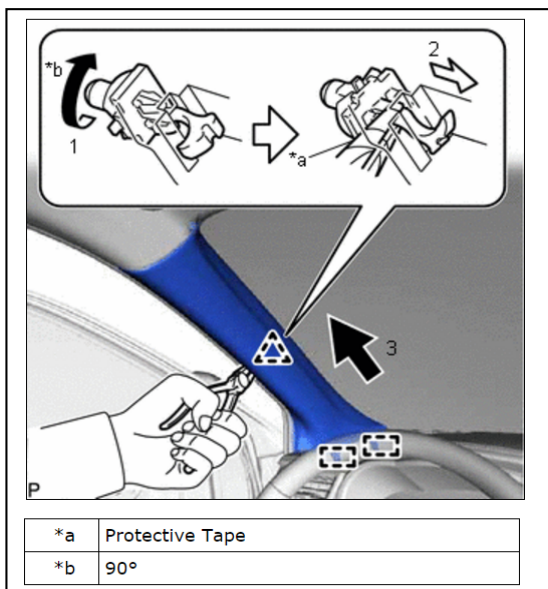

Figure 24
- d. Using needle nose pliers with the tips wrapped with protective tape, rotate the front pillar garnish clip (B) 90° in the direction indicated by the arrow(1) in Figure 24.
- e. Pull the front pillar garnish LH in the direction indicated by the arrow (2) shown in Figure 24 to disengage it from the front pillar garnish clip (B).
- f. Pull the front pillar garnish LH in the direction indicated by the arrow (3) shown in Figure 24 to disengage the 2 guides and remove the front pillar garnish LH.